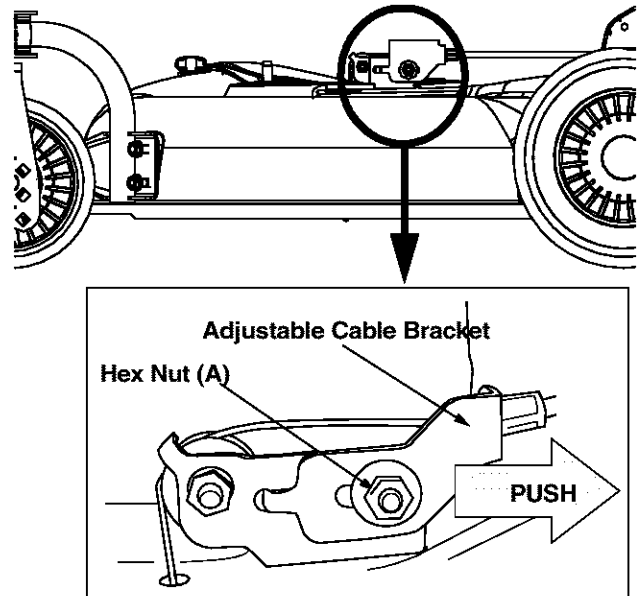

Figure 18
- Loosen hex nut (A) which secures the adjustable cable bracket. This bracket is located on the left side (towards the center) of the cutting deck. See Figure 18 for location of the bracket.
- Push back on the adjustable cable bracket. See Figure 18 inset.
- After adjusting as required, tighten hex nut (A).